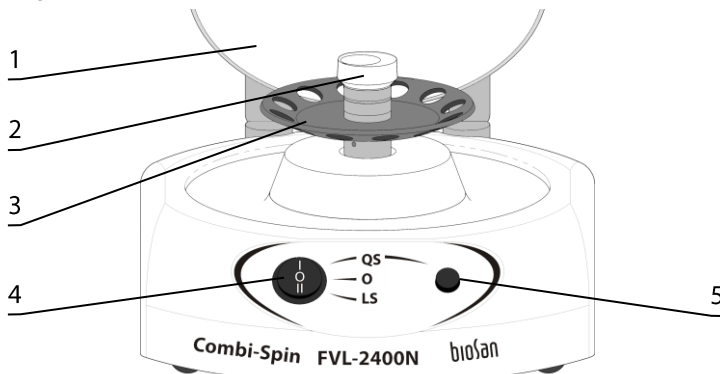

Figure 2. FVL-2400N
5.2.2. **Operation in the quick centrifugation mode.** Open the lid (fig. 2/1). Insert tubes in the rotor sockets, maintaining balance. Close the lid. Switch the power switch (fig. 2/4) into position **I (QS, quick spin)**. Press and hold the **QS** key (fig. 2/5) for quick mixing. After releasing the key, the rotor stops automatically. Switch the power switch into position **O (off)**, wait until the rotor stops, open lid and remove the tubes.
5.2.3. **Operation in the vortexing mode.** Empty the rotor and close the lid. Switch the power switch into position **I**. While gently holding the tube, press the bottom part of the tube in the vortex head cavity (fig. 2/2). Press and hold the **QS** key for vortexing. After releasing the key, the rotor stops automatically. Switch the power switch into position **O**.